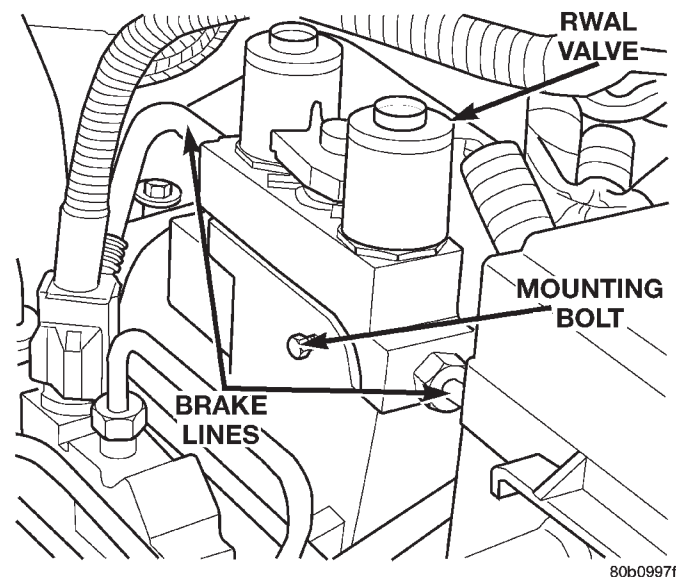

Fig. 9 RWAL Valve
(1) Remove RWAL valve harness connector from the RWAL controller.
(2) Remove the brake lines from the valve.
(3) Remove the valve mounting bolt (Fig. 9) and remove the valve from the bracket.